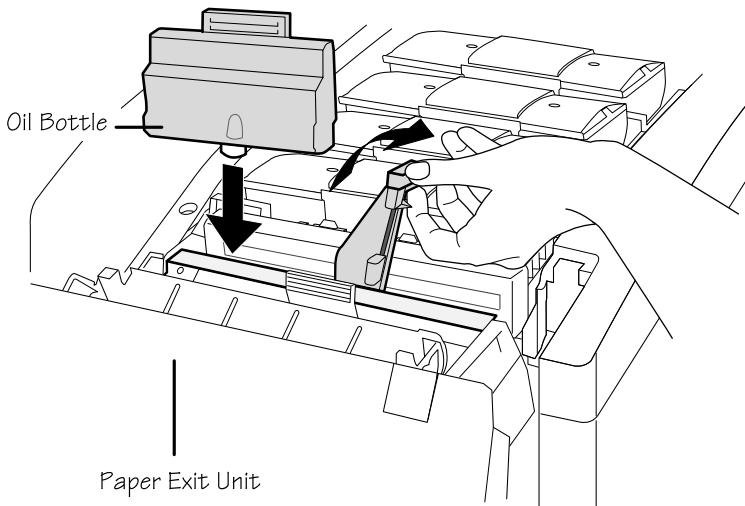

Fig. 2.19 Install the Oil Bottle (rear view)
5. Pull open the spring latch on the outer edge of the oil bottle retainer, and lift the retainer up and toward the center of the printer (fig. 2.19).
6. Hold the bottle, spout end down with the label facing the printer's front, over the slot in the top of the fuser unit (fig. 2.19).